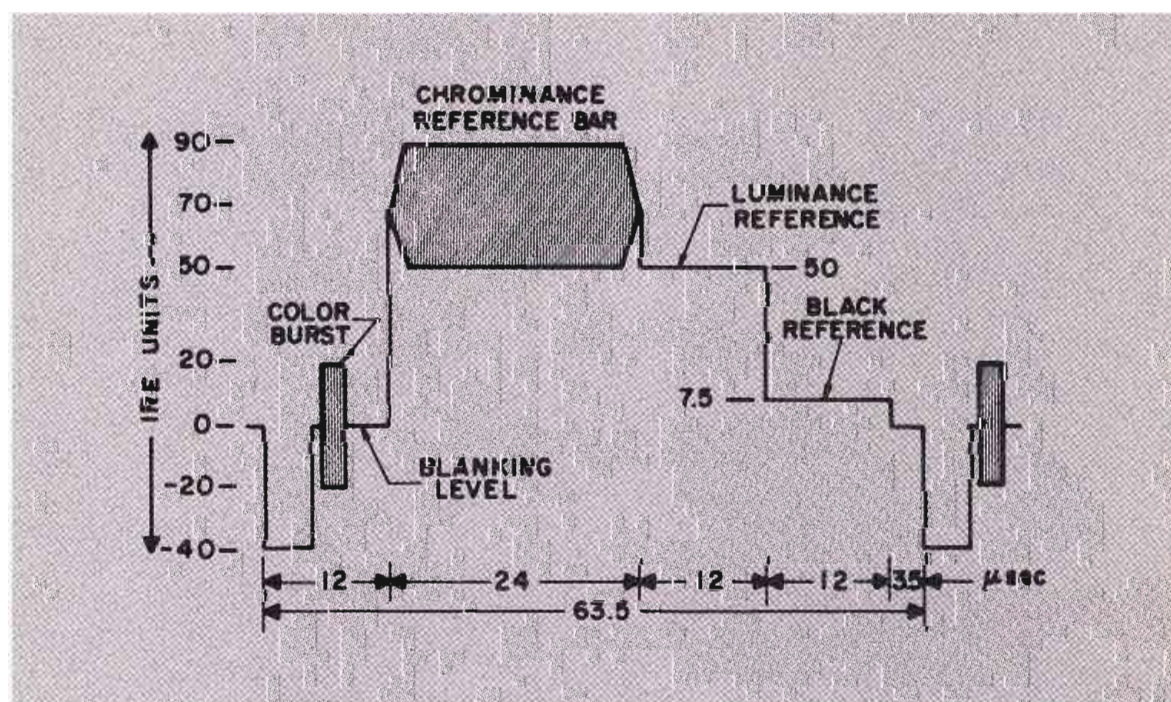

Fig. 1 The VIR signal on line 20.
The VIR signal as shown in Figure 1, placed on Line 20, is made up of the following reference parameters:
It is apparent from Figure 1 that:
E. Velocity errors in video tape recorders will have the least affect on the phase when the chrominance reference bar is placed at the beginning of the line as displayed in Figure 1.
The proposed VIR signal will be placed and occur on Line 20 as illustrated in Figure 1. To permit the VIR signal to feed through the com-